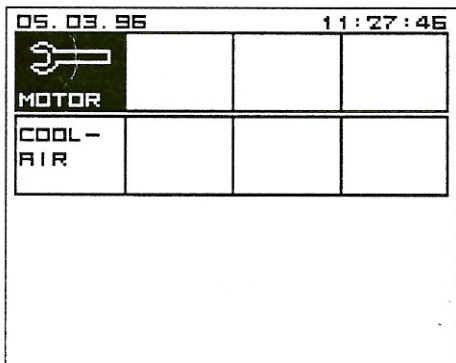

Figure 18. Motor cooling air 1.
- 2) Press the P-button twice and choose A2 (Fig. 18).